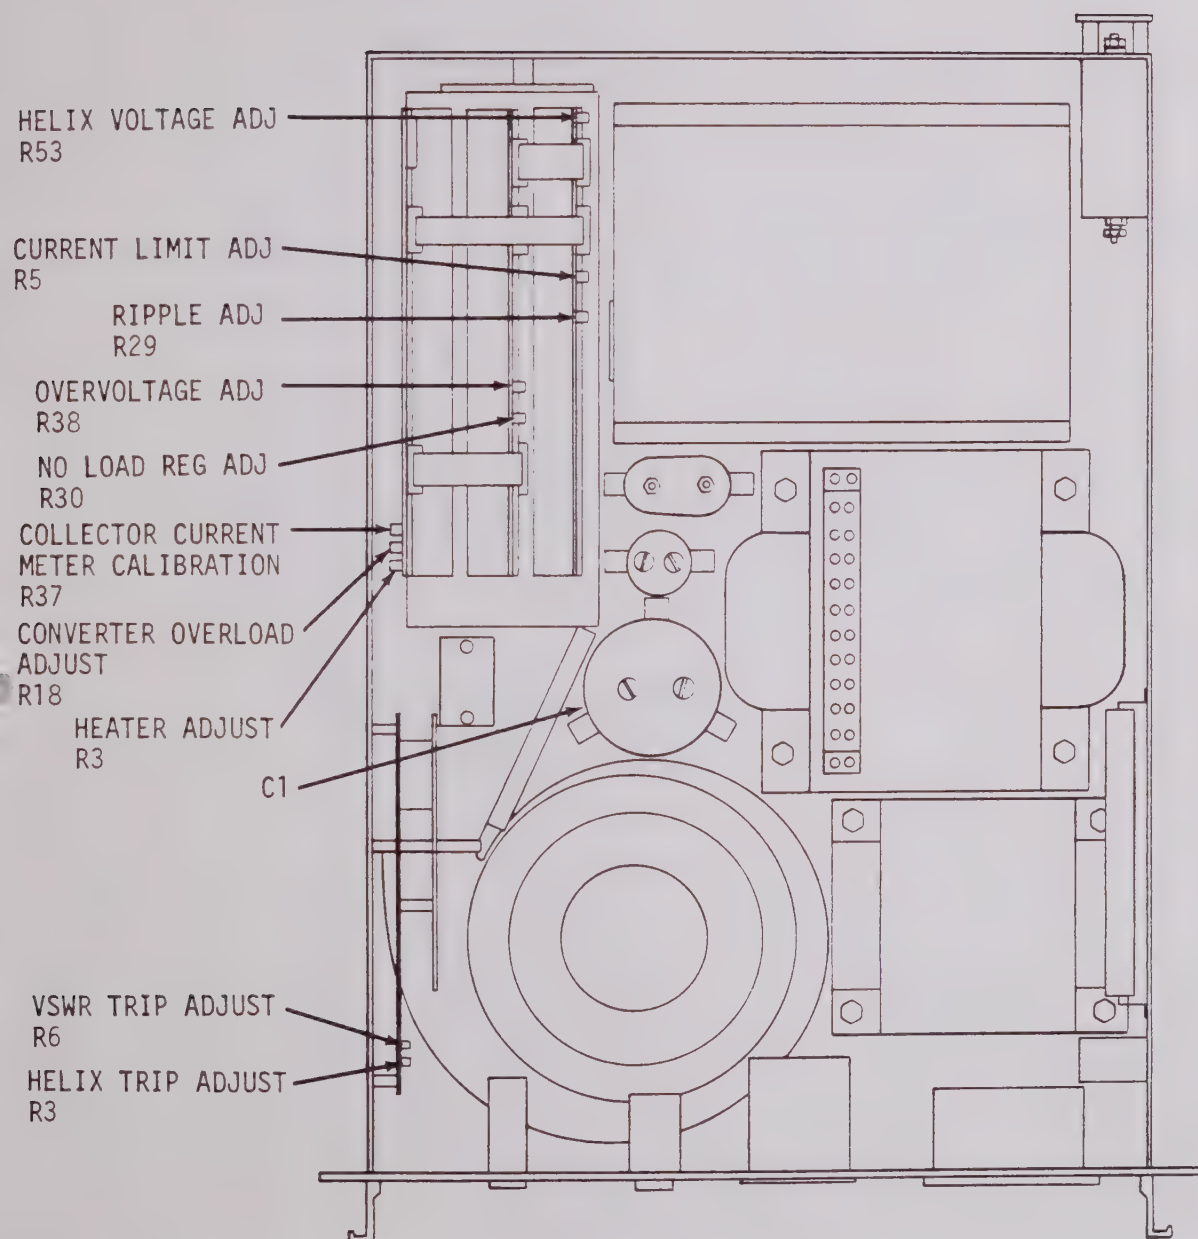

FIGURE 6-2 TWTA POWER SUPPLY ADJUSTMENTS
#### 6.3.4.1 300VDC and 38VDC Measurement Checks. (See Figure 6-2, Dwg. 113979)
- a. Connect VOM across C1 (Figure 6-2), positive to red lead (common) negative to black lead (-300V). If the switch regulator card is disconnected by removing A3P2, then connect a jumper from C1(+) to C2(+).
- b.2 Turn-OFF CB1. Wait 30 seconds. Remove from C1 (negative) the black lead that goes to the switch regulator (A3) assembly, Figure 6-2.
- d. Turn-OFF CB1. Wait 30 seconds. Connect VOM across C2, Figure 6-2.
6.3.4.5 Check HV Input Converter. (See Figures 6-2, 6-3, Dwg. 129405). If trouble is suspected in HV converter, refer to paragraph 6.4.2).
- a. Turn-OFF CB1. Wait at least 30 seconds and connect the input of switch regulator A4 (black lead) to C1 (negative), Figure 6-2, if previously disconnected.